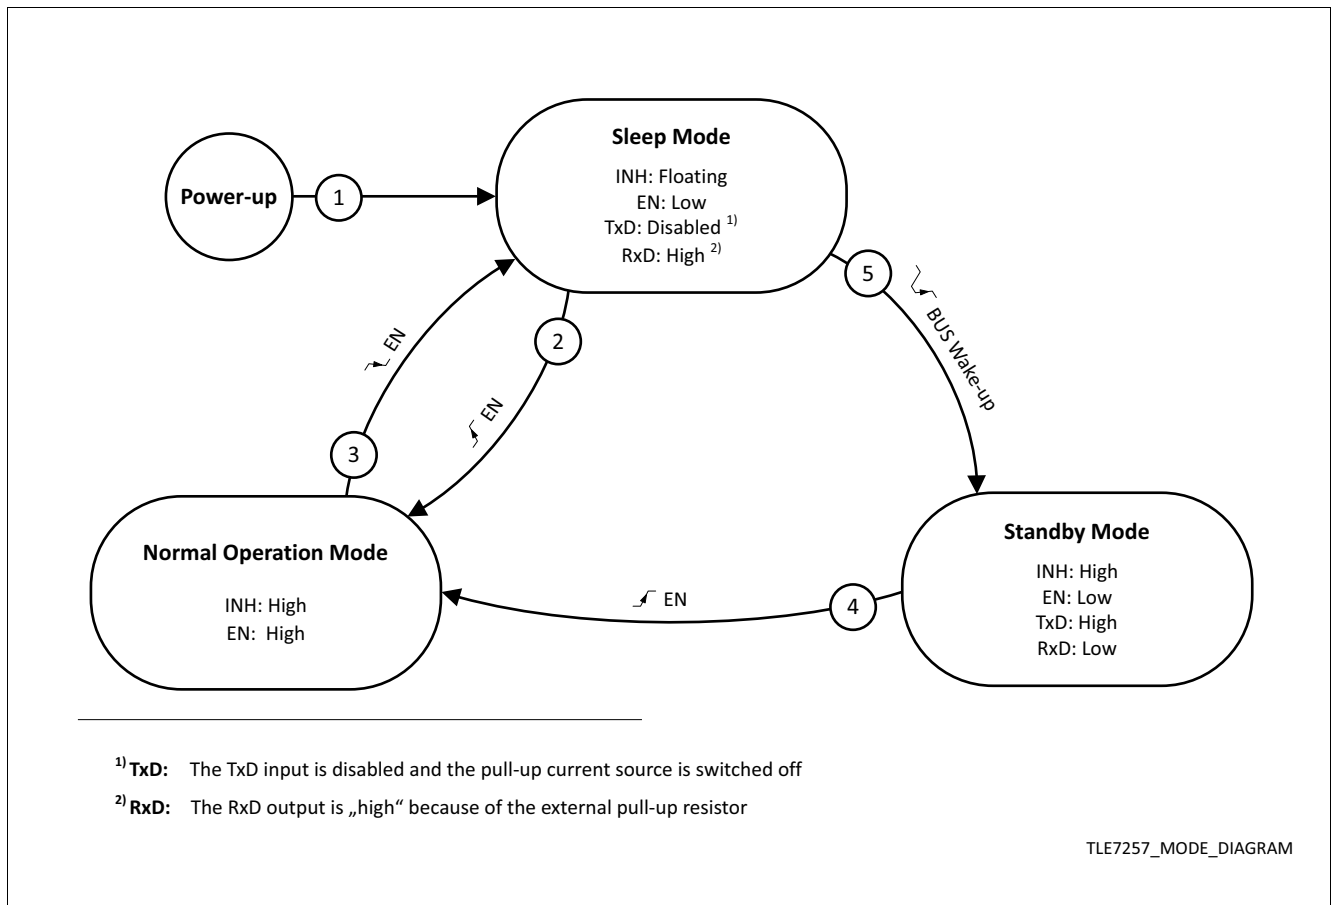
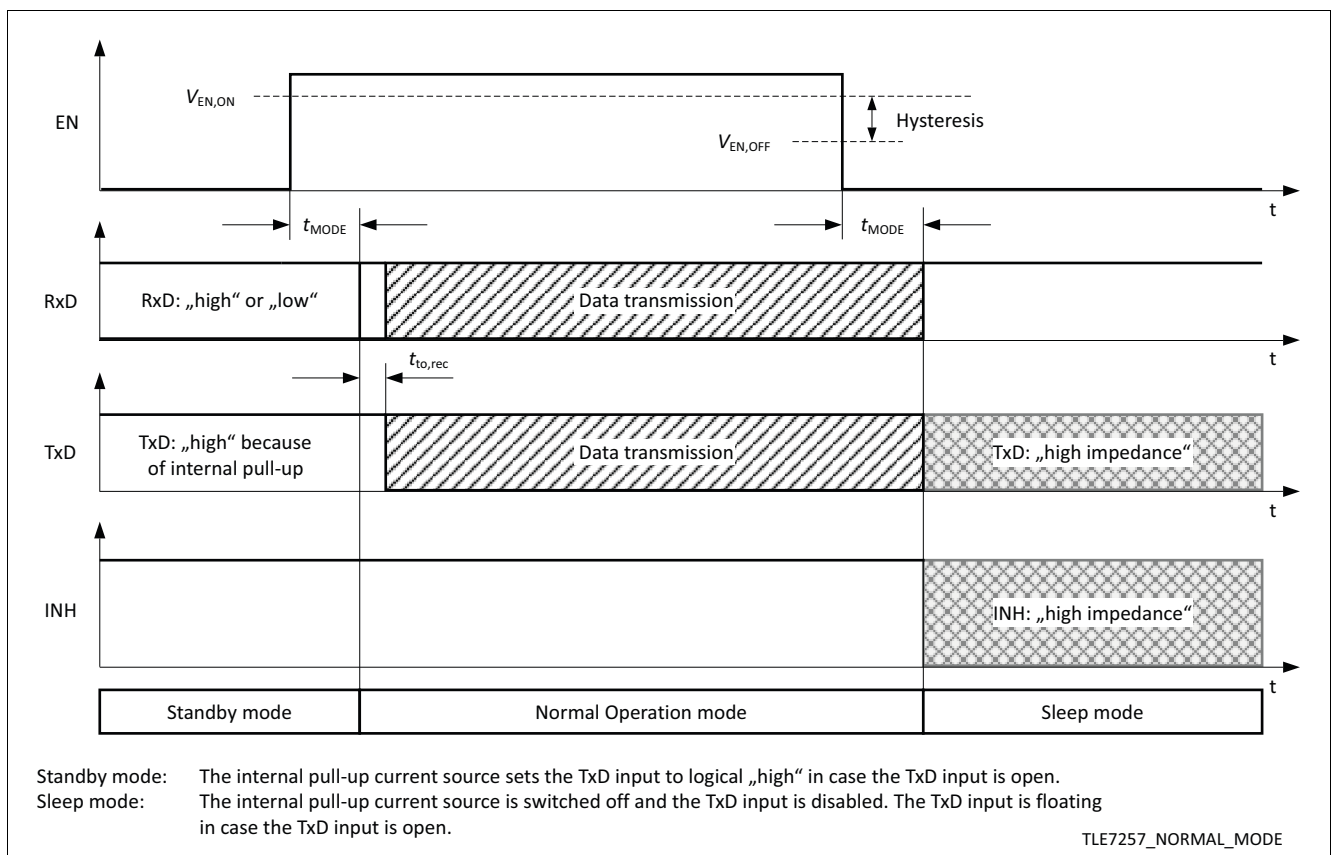
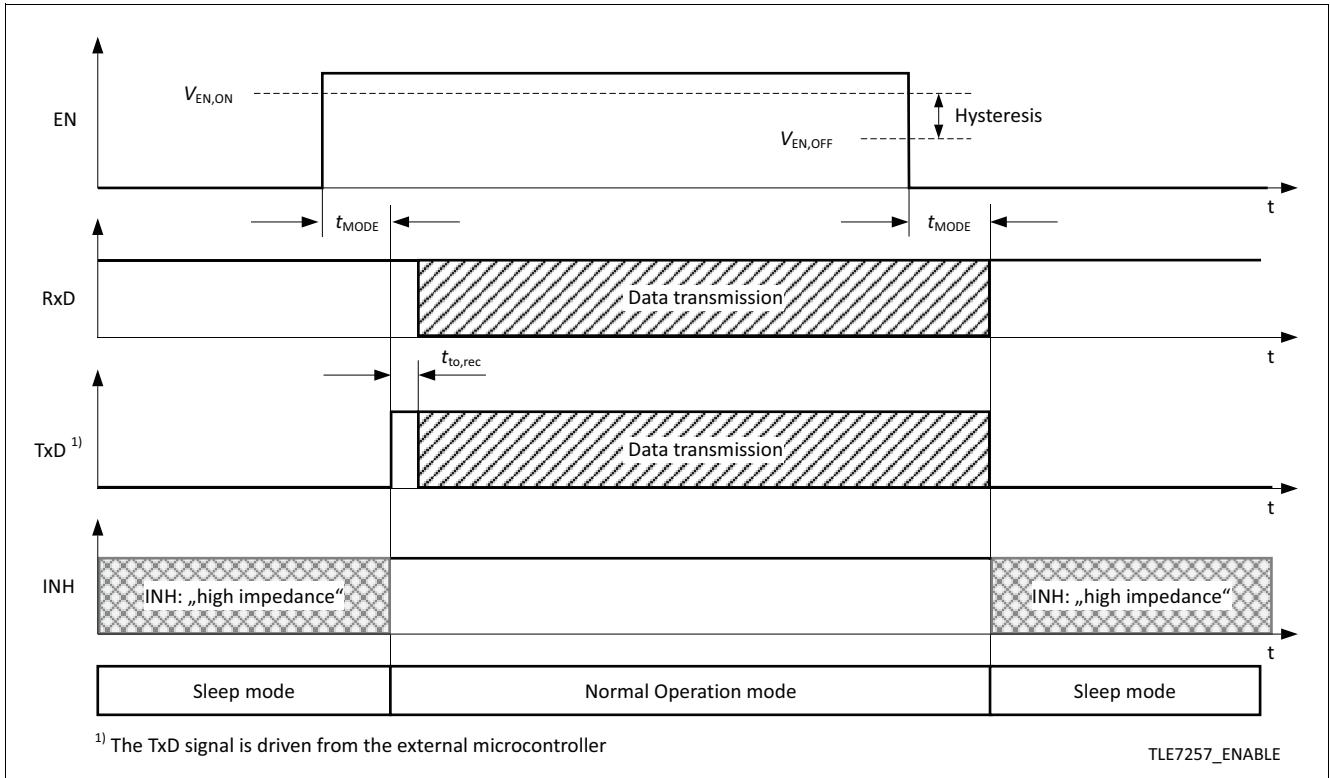

Figure 4 Operation mode state diagram
Figure 5 Entering Normal Operation mode from Standby mode
Figure 9 Entering Normal Operation mode from Sleep mode
The TLE7257 has 3 major operation modes (see Figure 4):
Normal Operation mode can be entered from either Sleep mode (see Figure 9) or from Standby mode (see Figure 5), by setting the EN input to logical "high". From Normal Operation mode the TLE7257 can only enter Sleep mode, it is not possible to enter Standby mode directly (see Figure 4).
After a mode change to Normal Operation the TLE7257 requires a logical “high” signal for the time $t_{to,rec}$ on the TxD input before releasing the data communication (see Figure 5). The transmitter remains deactivated as long as the signal on the TxD input remains logical “low”, preventing possible bus communication disturbance.
- The RxD output indicates a wake-up event (see Figure 4 and Table 1).
- The EN input is active. A “high” signal on the EN input triggers a transition to Normal Operation mode (see Figure 5).
To switch the TLE7257 from Normal Operation mode to Sleep mode, the EN input has to be set to “low”. Conversely a logical “high” signal on the EN input sets the device directly back to Normal Operation mode (see Figure 4). The TLE7257 can only enter Sleep mode from Normal Operation mode.
The EN input is used for operation mode control of the TLE7257. By setting the EN input logical “high” for the time t_{MODE} while being Sleep or Standby mode, a transition to Normal Operation mode will be triggered (see Figure 9). The EN input has an integrated pull-down resistor to ensure the device remains in Sleep or Standby mode even if the EN pin is left open. The EN input has an integrated hysteresis.
A signal transition from logical “high” to “low” on the EN input changes the operation mode from Normal Operation mode to Sleep mode (see Figure 5).